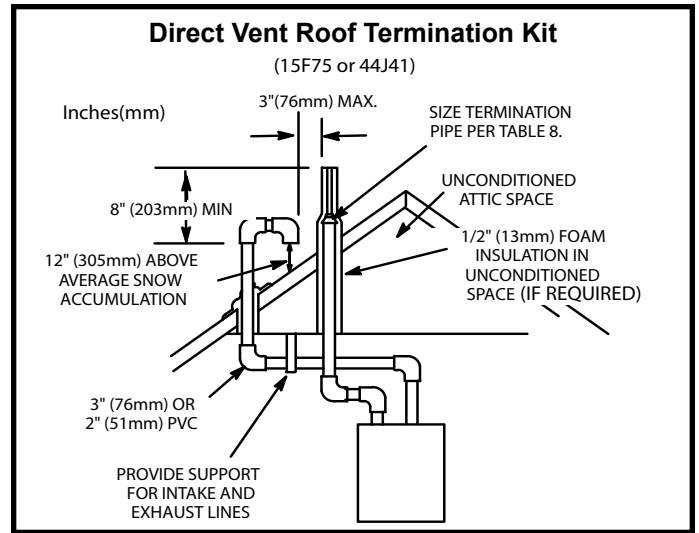

Figure 25
Intake and exhaust pipes may be routed either horizontally through an outside wall or vertically through the roof. In attic or closet installations, vertical termination through the roof is preferred. Figures 25 through 33 show typical terminations.
3. On roof terminations, the intake piping should terminate straight down using two 90° elbows (See Figure 25).